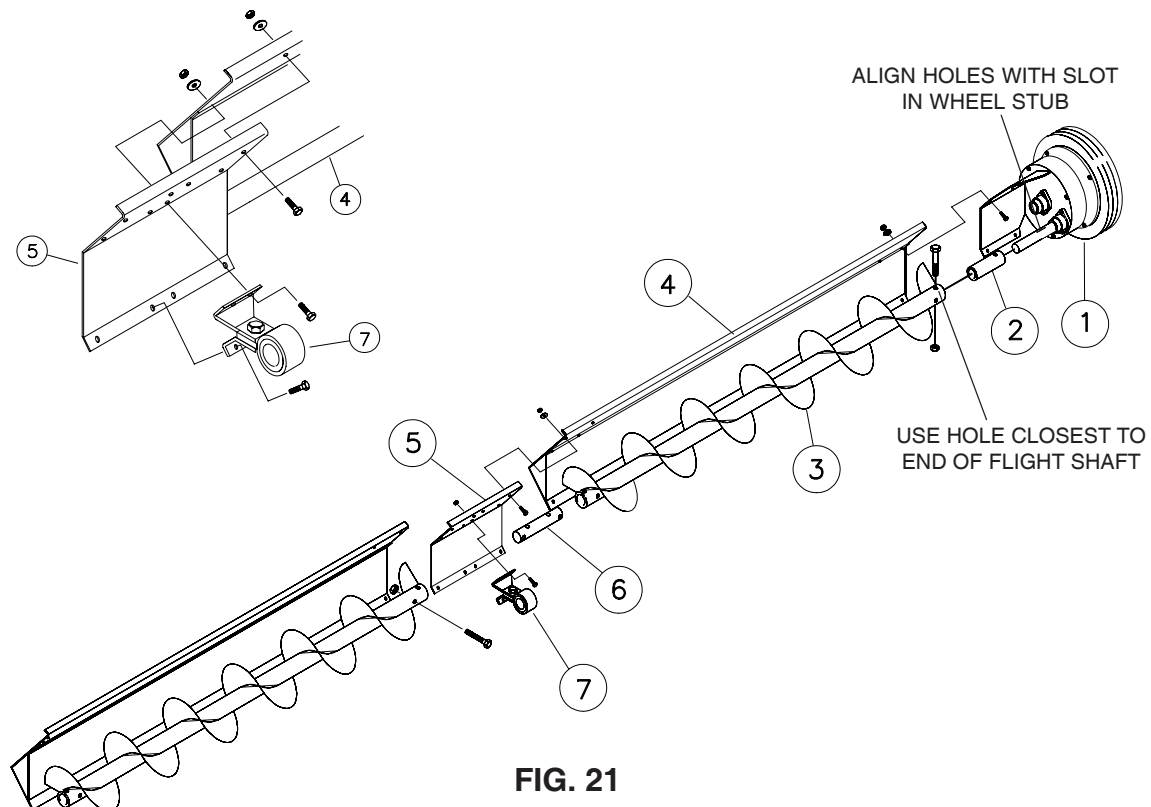

FIG. 21
11. Assemble the flight and shield to the sweep wheel (See Fig. 21). (**Note: if there are three (3) sections of flights and shields being used, the shield that measures 86-1/4" long, MUST be used in the middle.**) Once assembled, add a multi-purpose grease to the sweep wheel drive enclosure (See the "Lubrication" Section on Page 11).
- A. Slide bushing (Ref. No. 2 in Fig. 21) onto the sweep wheel stub so that the hole in the bushing is closest to the wheel (align the bushing with the slot in the wheel stub).
- C. Fasten the shield (Ref. No. 4) to the sweep wheel using four (4) 5/16" x 3/4" bolts, flat washers and nylon locknuts.
- A. Install the flight stub (Ref. No. 6) into the end of the flight previously attached to the sweep wheel. Secure using two (2) 1/2" x 3" bolts and nylon locknuts.
- B. Slide the shield bearing hanger (Ref. No. 7) onto the flight stub and bolt the next section of flight to the stub using two (2) 1/2" x 3" bolts and nylon locknuts.
- C. Use four (4) 5/16 x 3/4" bolts, flat washers and nylon locknuts in the top and outside holes of the shield splice (Ref. No. 5) to attach it to the end of the shield previously bolted to the sweep wheel (the splice will mount to the auger side of the shield). Place the next length of shield on top of the splice and align the mounting holes, secure using four (4) 5/16" x 3/4" bolts, flat washers and nylon locknuts.
- D. Install the the shield bearing hanger bracket (Ref. No. 7) to the auger side of the shields and secure using four (4) 5/16 x 1" bolts, flatwashers and nylon locknuts.